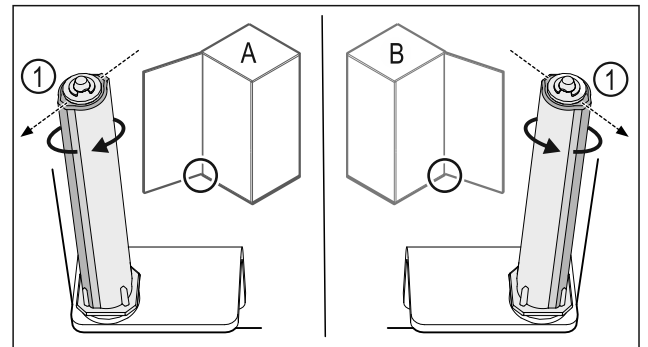

Fig. 47 Left-hinged (A) / Right-hinged (B)
- ▶ Turn the closing system against the resistance until the bar of the closing system Fig. 47 (1) points outwards.